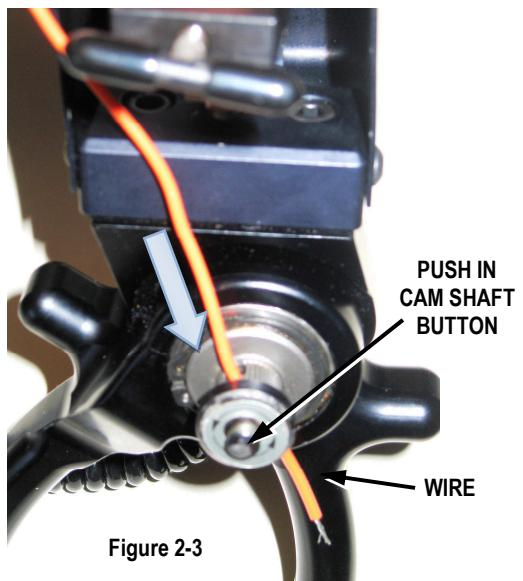

Figure 2-3
2. Depress the cam shaft button, located on the center of the handles, and insert the end of the wire sample in the hole located in the cam. See Figure 2-3.